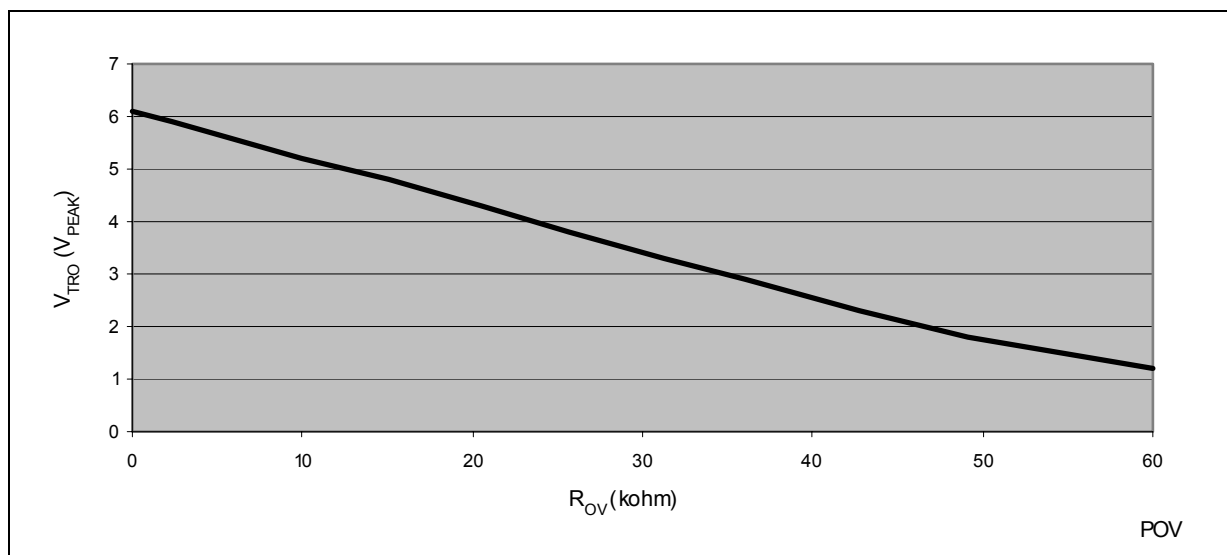

Figure 13 Programmable Overhead Voltage (POV). $R_L = 600 \Omega$ or Infinite
With the POV function the overhead voltage can be increased. If the POV pin is left open the overhead voltage is internally set to $1.1 V_{Peak}$. The overhead voltage is equal in on-hook and off-hook. If a resistor R_{OV} is connected between the POV pin and AGND, the overhead voltage can be set to higher values, typical values can be seen in **Figure 13**. The R_{OV} and corresponding V_{TRO} (signal headroom) are typical values for THD < 1% and the signal frequency 1000 Hz.
2. In **Figure 13** the corresponding R_{OV} for the decided V_{TRO} can be found.